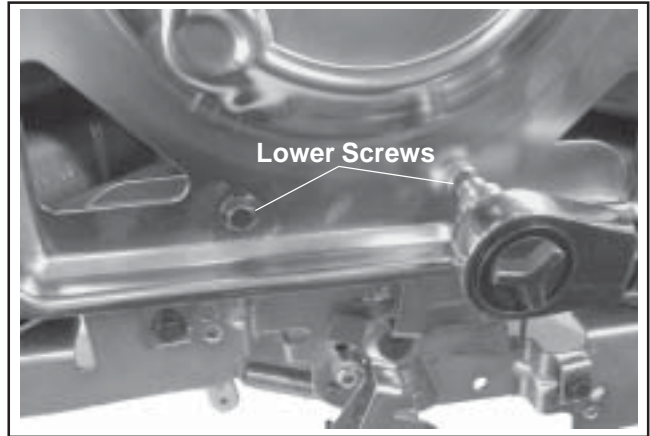

**Figure 11-84. Breather Hose and Separator Details.**
1. Connect the breather hose and attach the breather separator to the valve cover. Position the hose in the cutout of the blower housing (later models). See Figure 11-84.